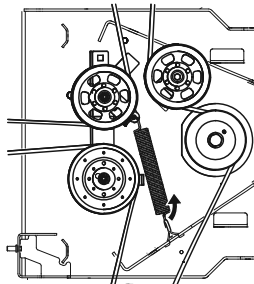

Figure 45
- b. Remove the idler spring from the wireframe spring hook on the right side of the center of the deck. See Figure 45.